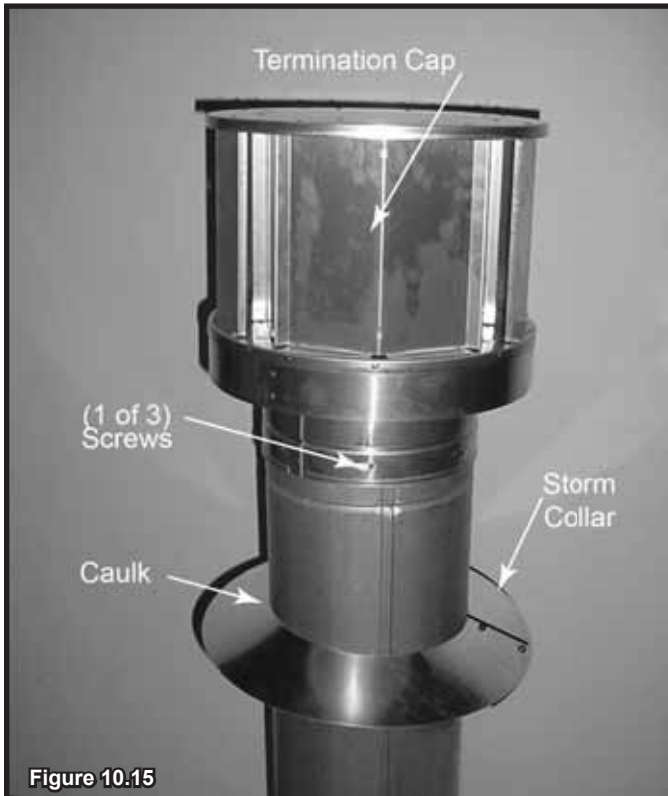

Figure 10.15
- Caulk the perimeter of the flashing where it contacts the roof surface. See Figure 10.15.
- Secure the cap by driving three self-tapping screws (supplied) through the pilot holes in the outer collar of the cap into the outer flue of the pipe (see Figure 10.15).